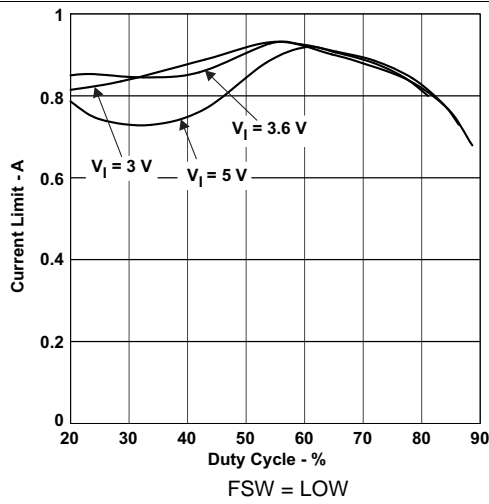

Figure 5. TPS61080 Overcurrent Limit
(1) VIN = 3.6 V, VOUT = 15 V, Duty cycle = 76%. See Figure 5 to Figure 8 for other operation conditions.
(2) OUT short circuit condition is detected if OUT stays lower than VIN – VSC for 1.7 ms after IC enables. See the Start Up section for details.
To minimize the variation in the overcurrent limit threshold, the TPS6108x uses the VIN and OUT pin voltage to compensate for the variation caused by the slope compensation. However, the threshold still has some dependency on the VIN and OUT voltage. Use Figure 5 to Figure 8 to identify the typical overcurrent limit in your application, and use 25% tolerance to account for temperature dependency and process variations.